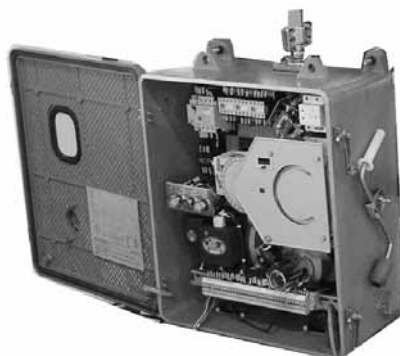

Fig.6 CMA9 motor drive mechanism
3.1.1 Cover: see fig.6 for the head flange of cover hand wheel type tap changer. The force is transmitted through the hand wheel to the driving shaft and then to the moving contacts of the contacts system through coupling box.
The head flange and contacts system are the same as those of ground manual drive type tap changer. "CMA9 operating instruction" specifies the motor drive unit (Fig.6).